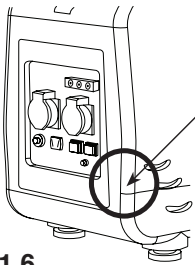

Fig. 1.6
- Hold an Angle Brace on a corner nearest to the electrical panel, slightly under the electrical outlets (Fig. 1.6) with the grommet pins up and down.